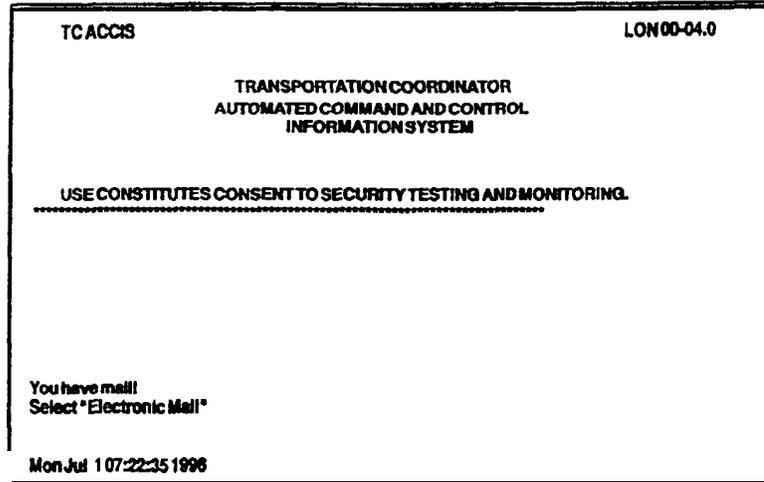

Figure 8-1. TC ACCIS Message of the Day Screen
2. Enter your TC ACCIS **password**. The TC ACCIS Message of the Day screen is displayed temporarily, as shown in Figure 8-1